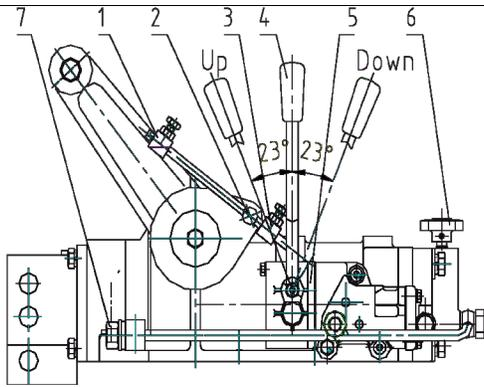

Fig. 4-1 Hydraulic lift
a. Lifting & lowering the farm implements (see Fig. 4-1).